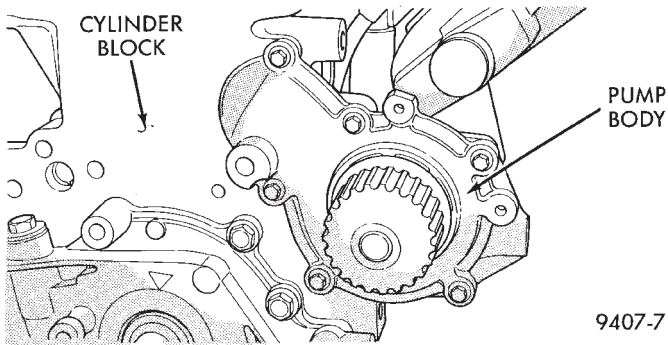

Fig. 15 Water Pump — 2.0L Gasoline
(1) Disconnect the quick connect coupling. Refer to the “Quick Connect Coupling” removal and installation procedure in this section.
(2) Remove the master cylinder pushrod from the clutch pedal pin by prying between the self-retaining snap-on bushing, located in the master cylinder pushrod, and the clutch pedal pin (Fig. 15).
(3) Remove power steering pump bracket bolts and set pump and bracket assembly aside. Power steering lines do not need to be disconnected.
(4) Remove timing belt.
(5) Remove inner timing belt cover.
(6) Remove water pump attaching screws to engine (Fig. 15).